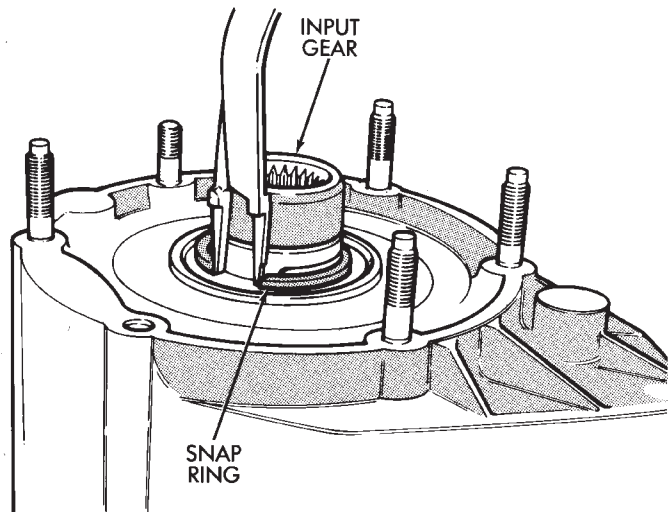

Fig. 29 Removing Input Gear Snap Ring
(43) Remove input gear snap ring (Fig. 29).